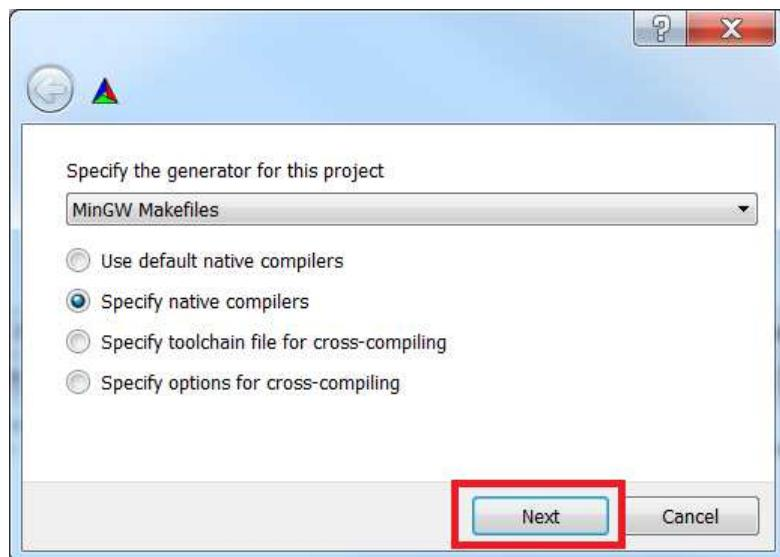

Figure 29. CMake Specify Compilers
9. If an error occurs immediately, check the PATH variable and make sure that it includes the MinGW path from Section 4. Also make sure the computer was restarted after that change. If the error persists, use the “Specify native compilers” option as shown in Figure 29. Click “Next” to continue. Figure 30 shows the compiler selection menu. Browse for both the C and C++ compilers in the Qt MinGW binary folder. For the C compiler, select gcc.exe and for the C++ compiler select the g++.exe as shown in Figure 31. Once this is complete, the compilers window should look like Figure 32. CMake will try configuring again.